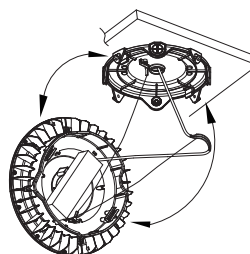

Figure 1-7
7. Align the driver box cover with the metal shrapnel inside the driver box and press upward to fasten it together. Figure 1-7